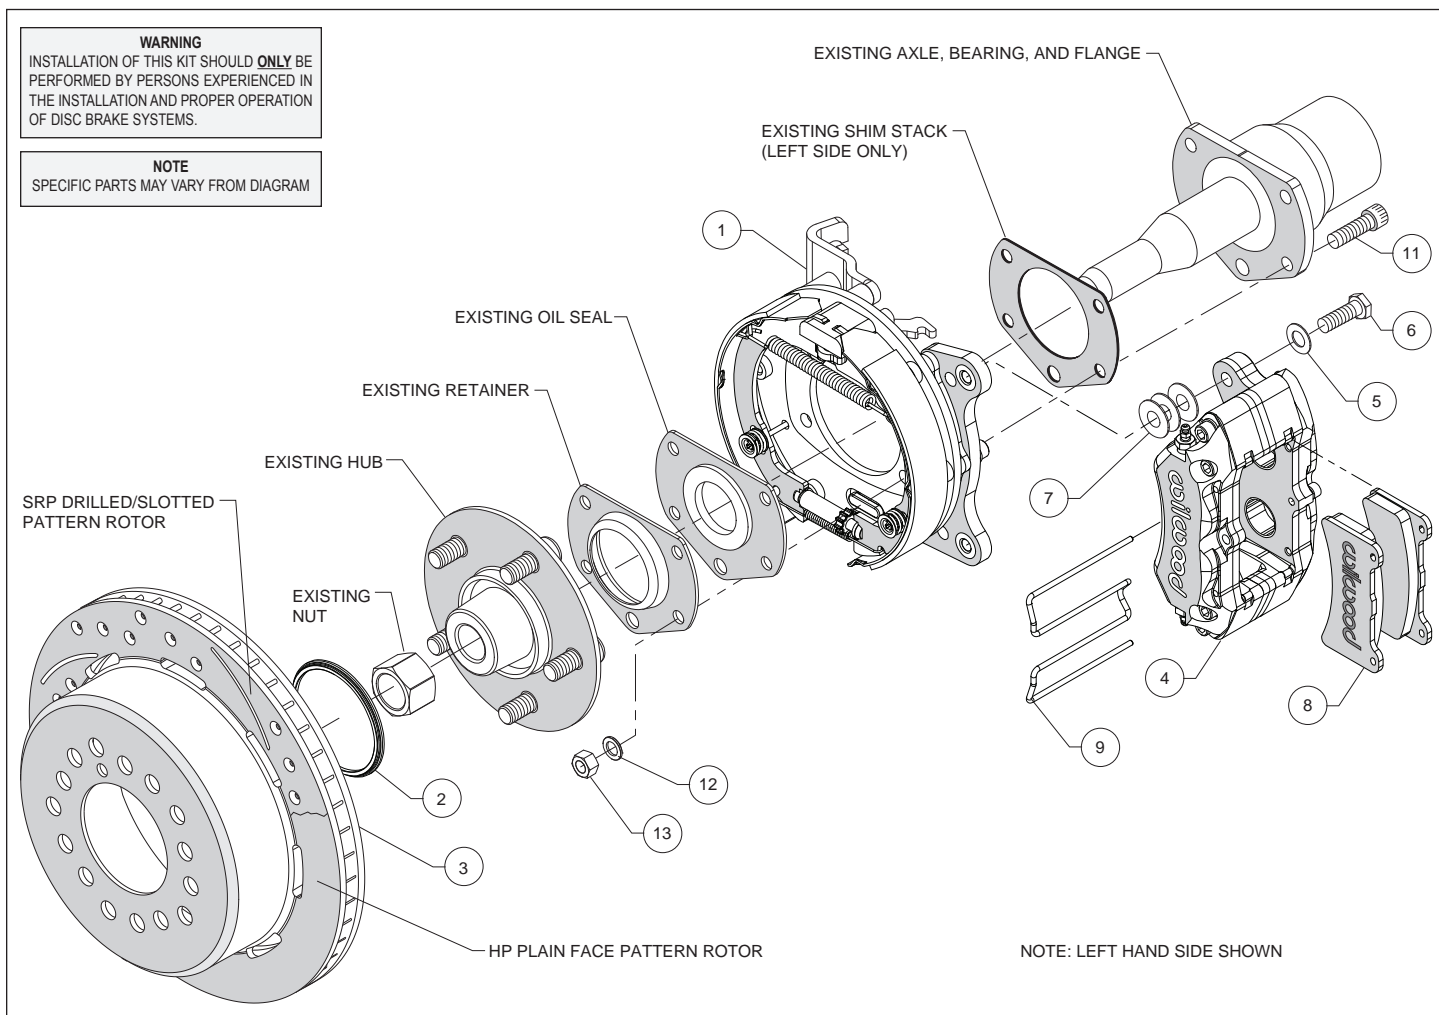
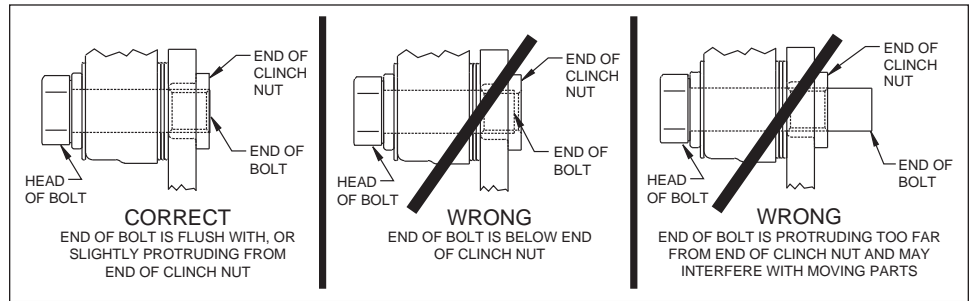

Figure 1. Typical Installation Configuration
Figure 4. Clinch Nut Engagement Diagram
Remove the rear wheels and disassemble the drum brake assembly down to the bare axle. Save the OEM retainer and left side axle flange shim stack. Refer to Figure 1.
**Assembly Instructions** (numbers in parenthesis refer to the parts list, and Figure 1 on the preceding pages): **CAUTION:** All mounting bolts must fully engage clinch nuts. Be sure to check that all bolts are either flush or protruding through flanged side of clinch nut after shimming, Figure 4.
- Orient the bracket assembly (1), as shown in Figure 1, and Photo 2. Install a new OEM seal plate (not included), Photo 3, and OEM retainer, Photo 4. Secure using bolts (11), washers (12), and nuts (13). Apply red *Loctite*® 271 to the bolt threads and torque nuts to 40 ft-lb.
- Slide the rotor registration adapter (2) onto the axle register on the axle flange with the smaller O.D. facing toward the rotor/hat (3), Photo 5. Align the correct hole pattern in the rotor/hat with the stud pattern on the axle flange and slide into place, Figure 1 and Photo 6. **NOTE:** The rotor/hat must fit flush against the axle flange or excessive rotor run out may result. Install three lug nuts (finger tight) to keep the rotor/hat assembly in place while continuing with the installation. **NOTE:** Some OEM and after market axles come with stud sizes larger than 0.50" diameter. Verify stud size and have a qualified machine shop drill the bolt circle of the hat/rotor to the correct stud size, if necessary.
•**NOTE:** Please reference the caution statement at the beginning of the assembly instructions. Mount the caliper (4) onto the caliper mounting bracket (1) using bolts (6) and washers (5), as shown in Figure 1. Initially place three .035" thick shims (7) on each bolt between the caliper and the bracket, Photo 7. Temporarily tighten the mounting bolts and view the rotor (3) through the top opening of the caliper. The rotor should be centered in the caliper, Photo 8. If not, adjust by adding or subtracting shims between the bracket and the caliper. Always use the same amount of shims on each of the two mounting bolts. **NOTE:** The end of each bolt must be flush with or slightly protruding from the head of the clinch nut, as shown in Figure 4. If necessary place spare shims between washer (5) and caliper mounting ear to achieve the proper clinch nut engagement. Once the caliper alignment and clinch nut engagement are correct, remove the bolts one at a time, apply red *Loctite*® 271 to bolt threads, and torque to 40 ft-lb.
•Install the disc brake pads (8) into the caliper, with the friction material facing the rotor (3), and secure in place using pad clip retainer (9), Photo 9.